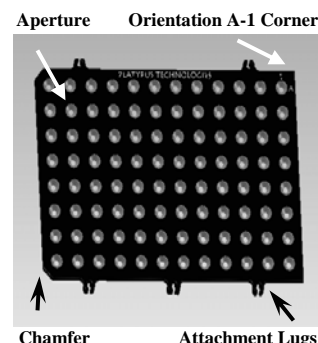

Figure 3. Features of Migration Mask
- Orient the chamfered corners of the mask with those of the 96-well plate, ensuring that the A1 corner of the mask is aligned with the A1 well of the plate (see Figure 3).